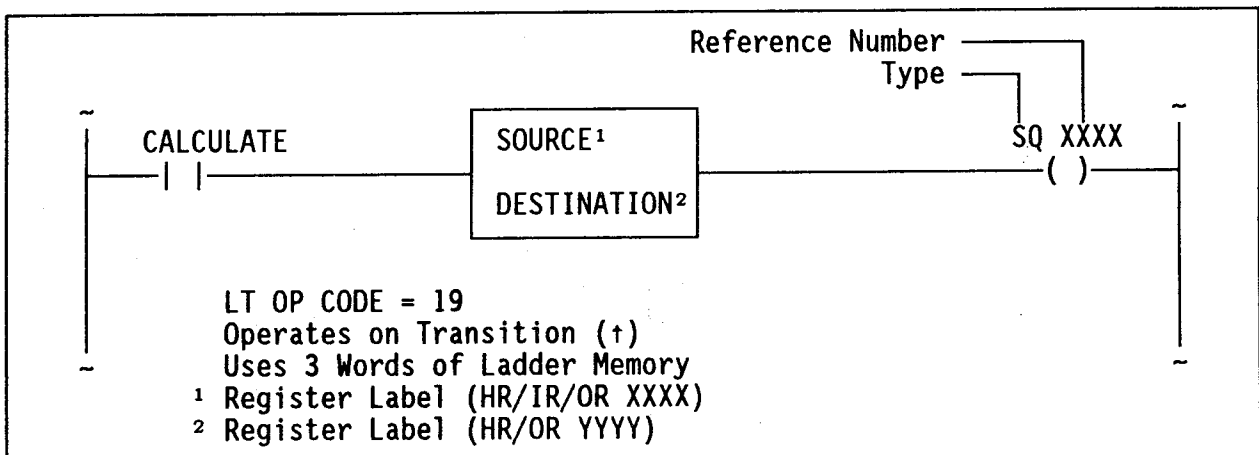

Figure 1. Square Root (SQ)
In the PC-1100, the Square Root (SQ) function allows the extraction of an eight-digit decimal number, up to 99,999,999. In the PC-1200, the Square Root (SQ) function allows the extraction of a nine-digit decimal number, up to 655,415,535. SQ function symbology is shown in Figure 1.